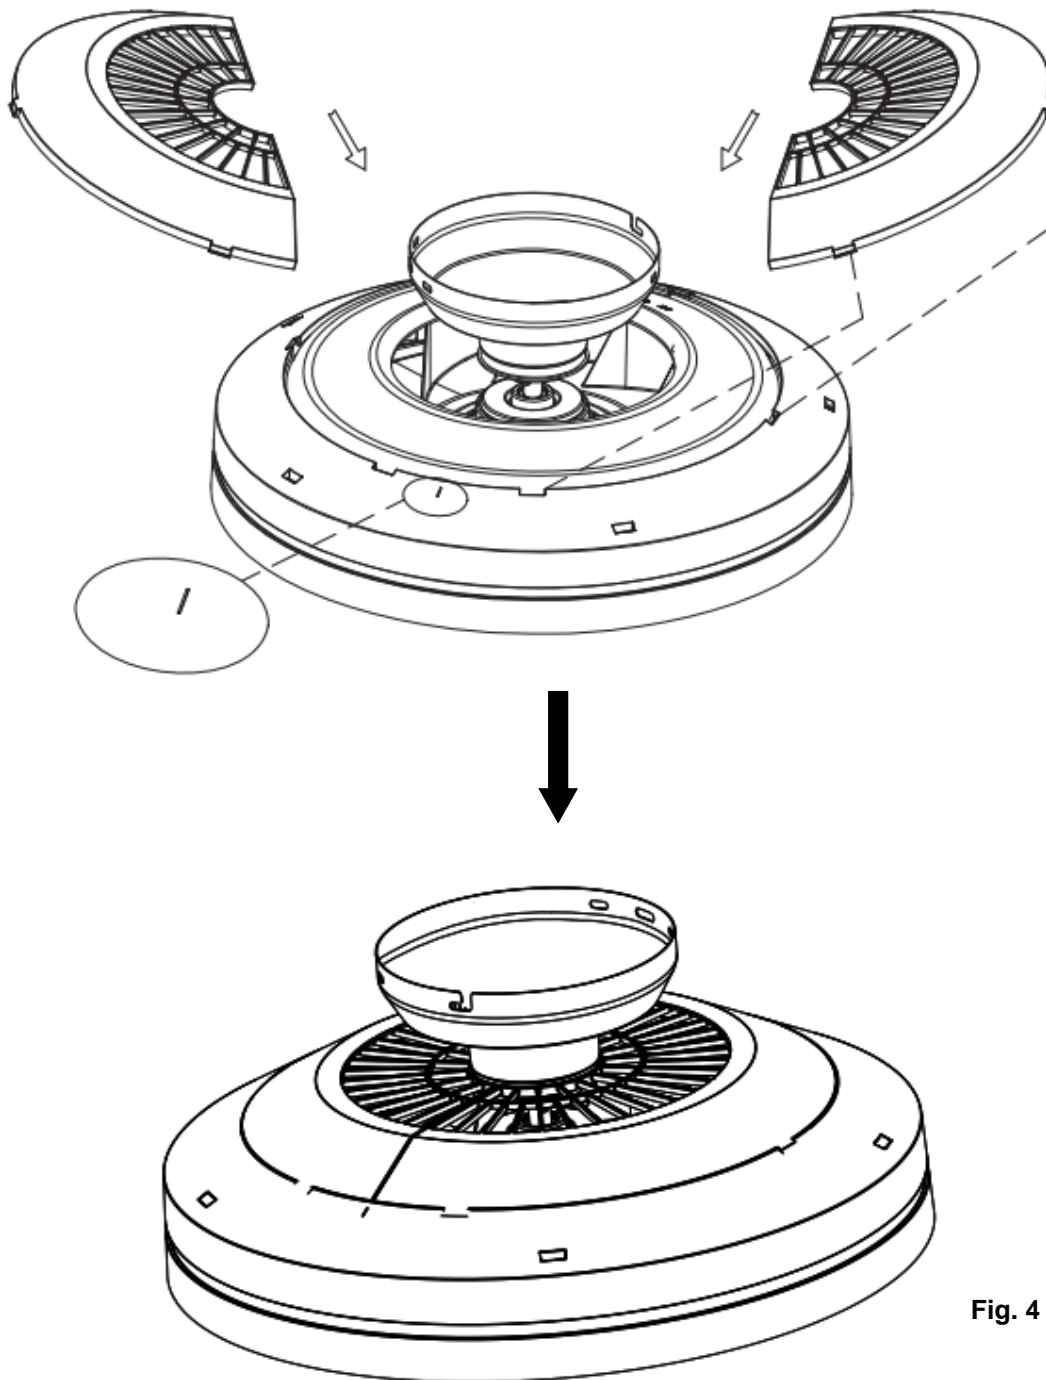

Fig. 4
- Insert the grille into the fan assembly in the direction shown in the diagram. Pay attention to align the splicing part of the grille with the installation marking line. (Fig. 4)